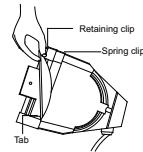

Figure 3
3. Hold the lens by the edge, and position it so the convex side faces the back of the fixture(**Figure 3**).